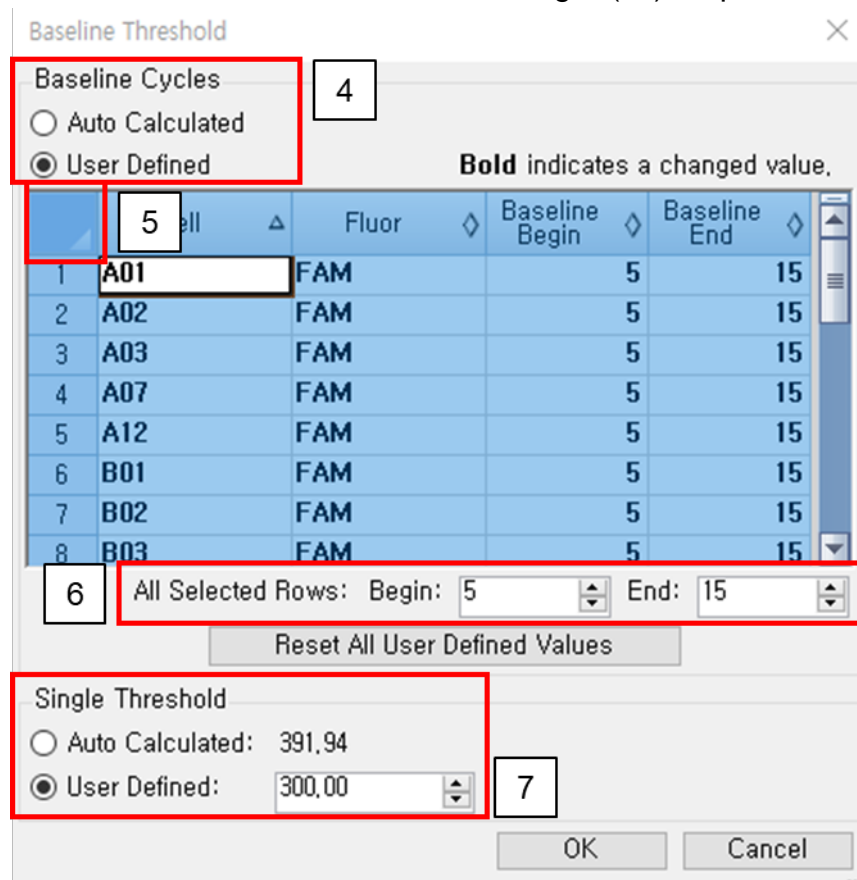

Figure 4. CFX Manager™ Software v3.1 Baseline Threshold Window
- ③ Select “User Defined”(#4) (Figure 4) in “Baseline Cycles” menu.
- ④ Click  (#5).
- ⑤ In “All Selected Rows” menu(#6), select 15 for “End” and selects 5 for “Begin”.
- ⑥ In “Single Threshold” menu(#7), select 300 for “User Defined”
- ⑦ Click “OK”